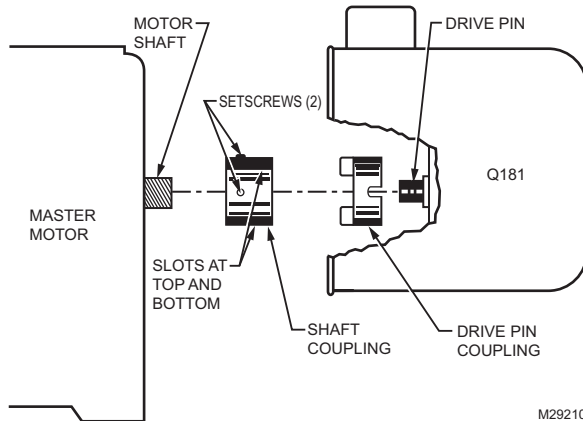

Fig. 3. Two-piece coupling for motor and potentiometer.
1. The two-piece coupling provides a nonbinding connection between the motor drive shaft and the drive pin on the Q181A (see Fig. 3). Place the shaft coupling on the motor shaft so the slots are on the top and bottom when the motor is in the closed position (controller R-W contacts are closed). Tighten both set screws securely.